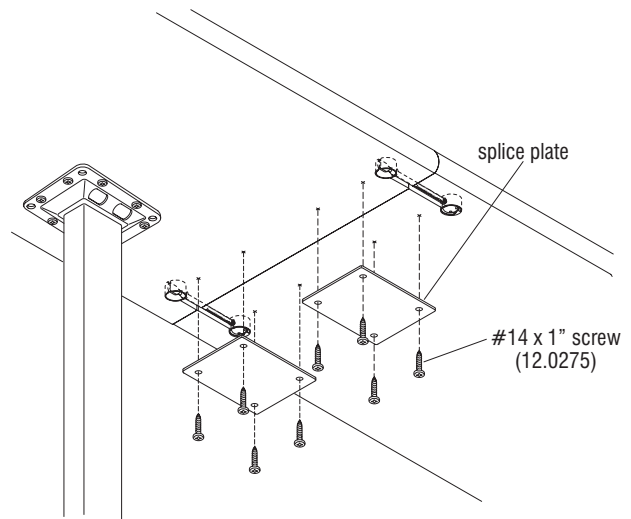

Figure 4
9. Per the space-planning layout, secure the required number of 5" x 5" splice plates over the joint using four #14 x 1" screws per plate, torqued to 100 in/lb. Continue securing all joints with adhesive, KV joint fasteners and splice plates along the run of tabletops (Figure 4).